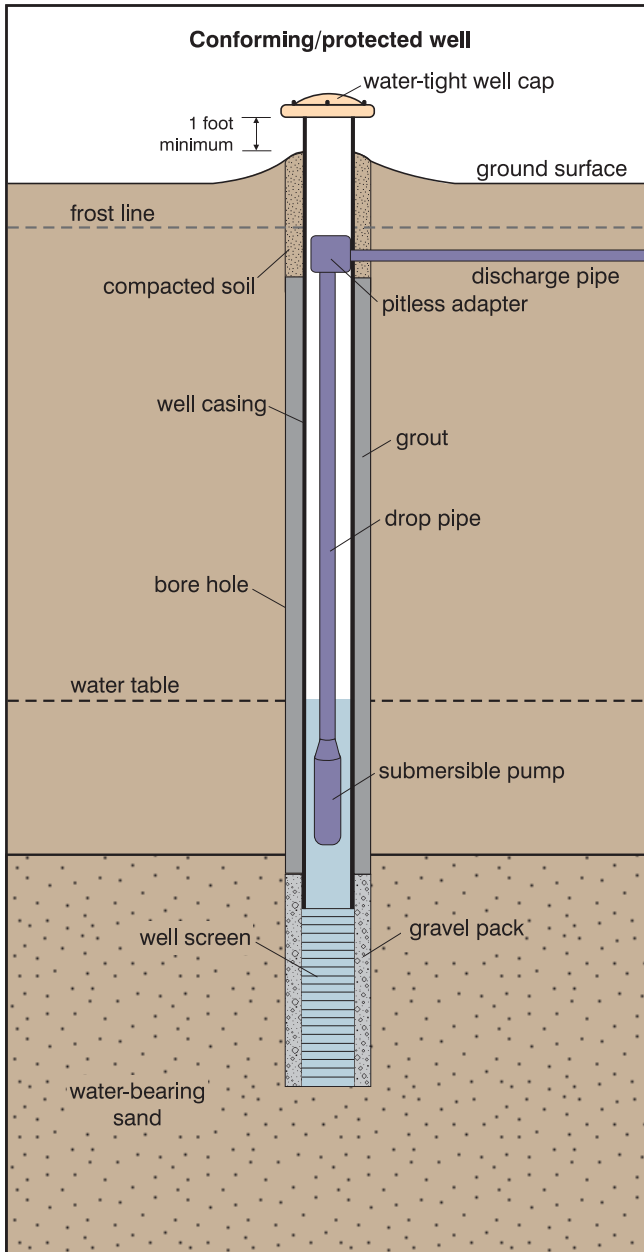
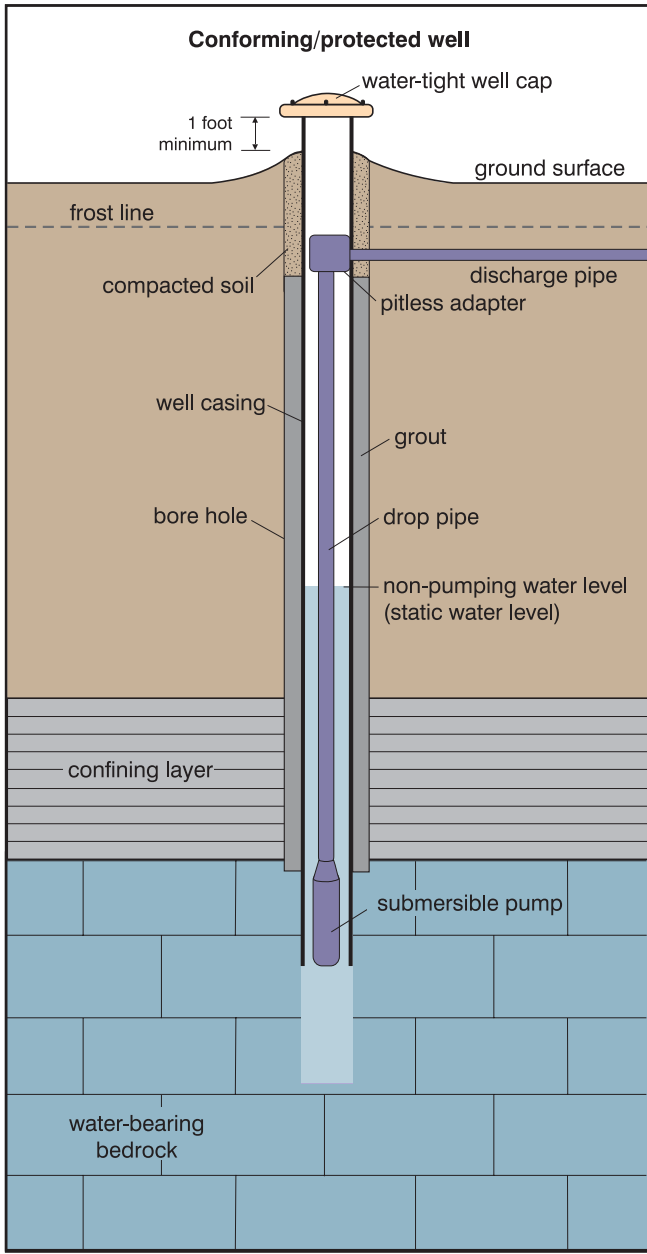

Figure 1. Drilled well tapping water-bearing sand.
Figure 2. Drilled well tapping water-bearing bedrock.
- **Small-diameter drilled wells** (Class 2 wells) are usually *cased* with steel or plastic pipe. These wells draw water from sand and gravel deposits (Figure 1) or from *bedrock aquifers* (Figure 2). These wells are the most common wells in Iowa and are generally found throughout the state.